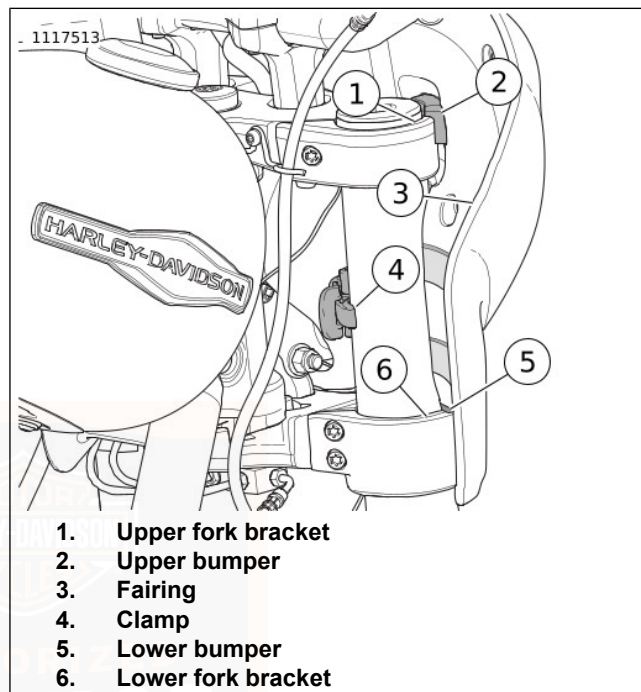

Figure 44. Fairing Installed
1. See Figure 44. Remove fairing.
- Open clamps (4).
- Straddle fender. Lift fairing (3) up over headlamp.
- b. Open clamps (4).
- c. Straddle front fender. Place fairing over headlamp and onto front forks (5).
- d. See Figure 44. Position upper bumper (2) on upper fork bracket (1).
- e. Verify lower bumper (5) is seated on lower fork bracket (6).